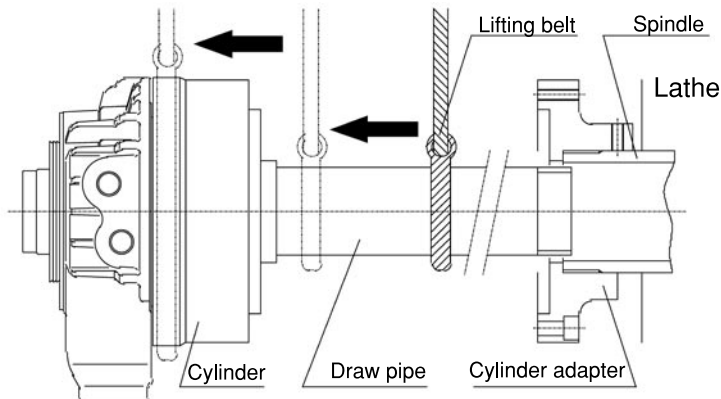

Fig.14
- When removing/installing the cylinder, use a lifting belt and perform as follows. (Fig.14)